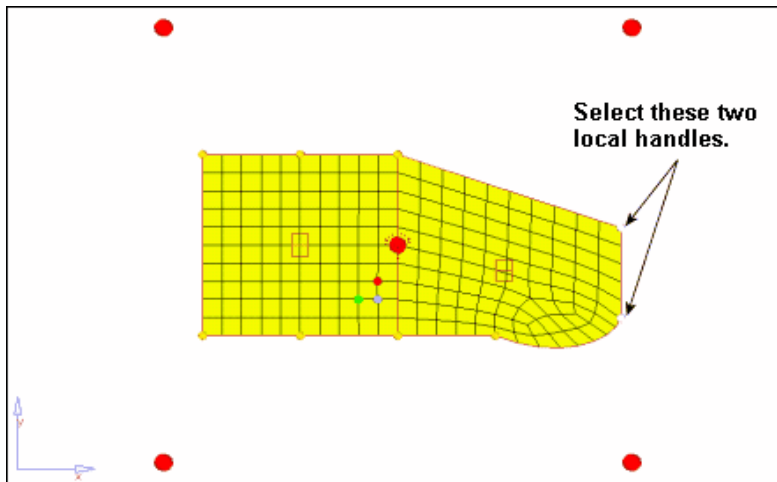

Figure 6: Example result of morphing the model
4. With the **handles** selector active, select the two handles on the right-hand end of the part, as indicated in figure 6.